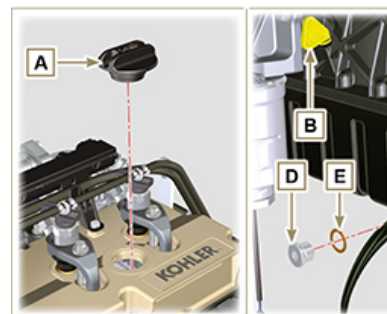

Fig. 6.1
1. Loosen the oil filler cap **A** (Fig. 6.1) .